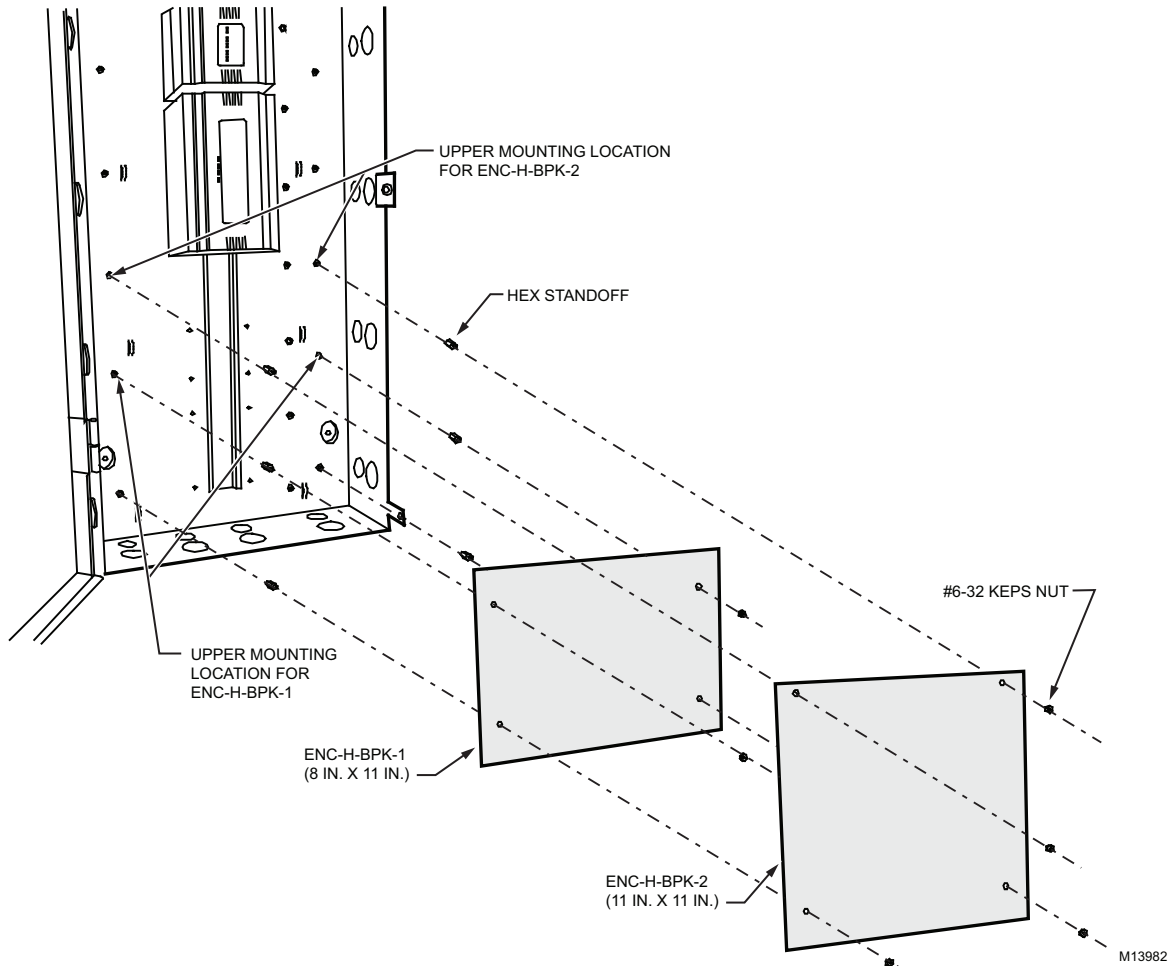

Fig. 4. ENC-H-BPK-1 and ENC-H-BPK-2 backplate mounting details.
- At the bottom back of the ENC-H-002 enclosure, fasten the four male-to-female hex standoffs on the appropriate enclosure studs, as shown in Fig. 4.